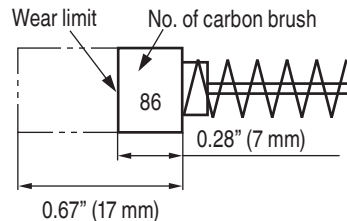

Fig. 10
5. Inspecting the carbon brushes (Fig. 10)
Use HITACHI carbon brush No. 86 indicated in Fig. 10.